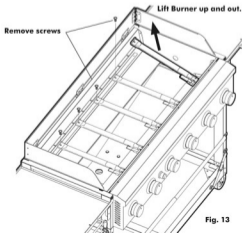
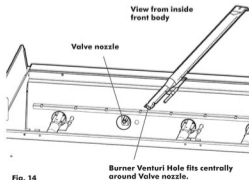

Fig. 13
Fig. 14
3. To remove each Main Burner, first remove the screw that fastens the burner flange to the firebox. (Fig. 13)
4. Gently lift the rear of the Burner. (Fig. 13) Slide the Burner towards the grill back to move the Venturi Hole off of the Valve nozzle. (Fig. 14) Lift each Main Burner from the grill. To completely remove the burner from the grill, disconnect the electrode wire from the back of the igniter box behind the control panel and carefully pull the wire through the inside of the firebox.